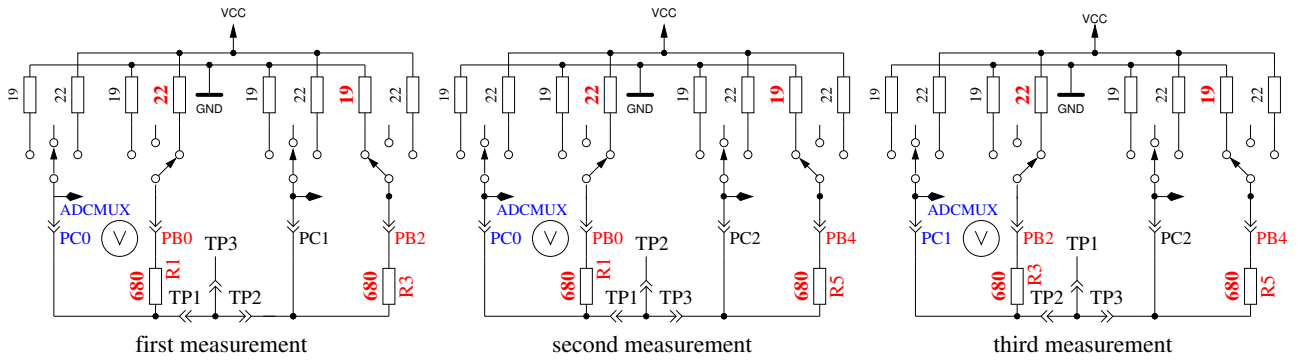

Figure 5.63. Comparison of 680Ω resistors
2. **Comparing of the 680Ω resistors.** In row 1 the cryptic text “+RL- 12 13 23” is shown. Meaning of this is as follows: The RL is the short form of Resistor Low meaning the 680Ω resistors. The 12 stand for: resistor at pin 1 is connected to VCC (+) and resistor at pin 2 is connected to GND (-). The result of this measurement is displayed in row 2 at the first place as difference to the theoretical value. In row 1 follows now a “13” which means, that the first connection of measurement 1 is still connected with 680Ω to VCC but that the resistor of pin 3 is connected to GND. The result is displayed in the middle place of row 2 as difference to the theoretical value. The last measurement of this test “23.” means that now the resistor at pin 2 is connected to VCC (+) and the resistor of pin 3 is connected to GND. The result of measurement is displayed at the last place of LCR row 2 as difference to the theoretical value. Please remember, that the resolution of the ADC is about $4.88mV$! The measurement situation is also shown in figure 5.63. The theoretical value with respect to the internal resistance of the pins should be: